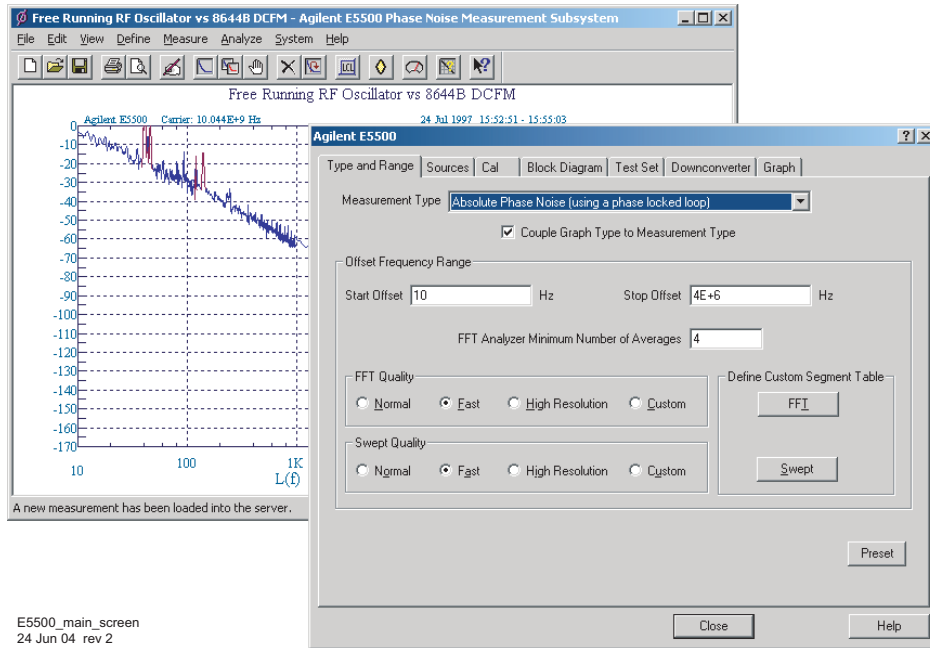

Figure 5 Phase noise measurement subsystem main screen
- 3 The phase noise measurement subsystem main screen appears (Figure 5 on page 40).